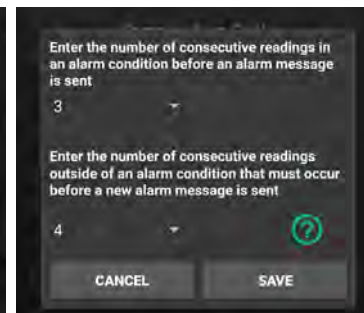

Fig. 8
- d. Alarm Delay – Configure how many readings must occur in an alarm condition before you are notified and how many readings after the temperature normalises before a new alarm condition will be sent to you. (See Fig. 8).